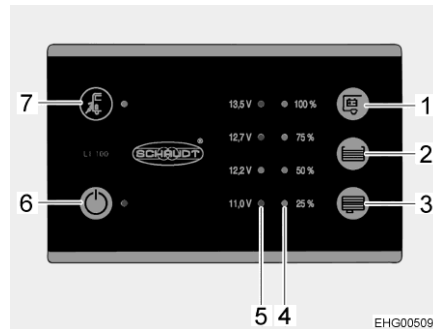

Fig. 67 Panel (LT 100)
Mains connection The yellow LED at the mains connection symbol "⚡" (Fig. 67,7) is lit when the vehicle is connected to an external mains supply. In this case, the LED will also be lit when the panel is switched off.
The 12 V main switch (Fig. 67,6) switches the panel and the 12 V power supply of the living area on and off.
- Press switch "⏻" (Fig. 67,6): The 12 V living area power supply is switched on. The LED lights up green.
- Press switch "⏻" (Fig. 67,6) again: The 12 V living area power supply is switched off. The LED goes out.
The LED array (Fig. 67,5) displays the battery voltage of the living area battery as follows:
- Press the button " " (Fig. 67,1): The battery voltage of the living area battery is displayed.
The LED array (Fig. 67,4) displays the fill level of the fresh water tank or of the waste water tank.
Display fill level: Press the button "☰" (Fig. 67,2): The fill level of the fresh water tank is displayed by lit LEDs.
Press the button "☷" (Fig. 67,3): The fill level of the waste water tank is displayed by lit LEDs.